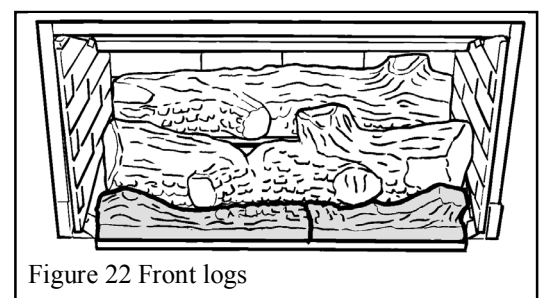

Figure 22 Front logs
5. Place the two front logs in position on the front log support tray. It may be necessary to raise the center log slightly in order to fit the left front log. Make sure that the spacer blocks positioned on the back surface of each front log rest against the front face of the center log at the far left and right positions. See figure 22. Check that the fuel bed parts are secure.